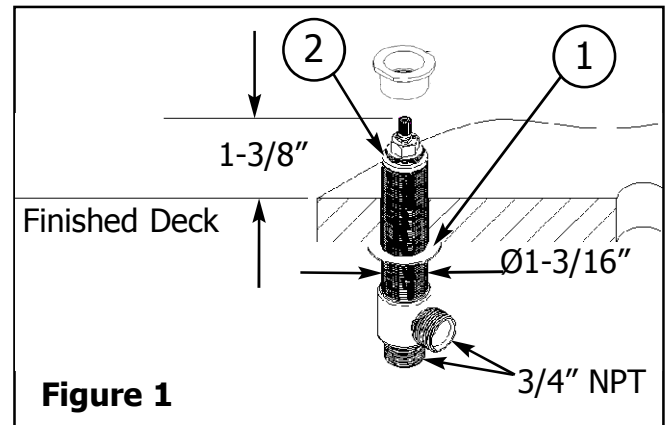

Figure 1
1. Place flange NUT (1) on valve BODY (2).
2. Insert BODY (2), (blue cold & red hot), through hole from below mounting surface.
3. Adjust and secure with INVERTED NUT so that the top of valve stem is 1-5/16" above the mounting surface. See Figure 1.